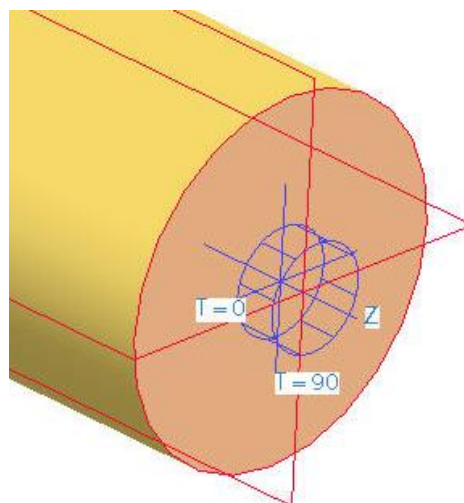

Figure 12 – Cylindrical Coordinate System
- Choose **Refine Model > Datum > Coordinate System**. In the Coordinate System dialog change the Type of the coordinate system to **Cylindrical** then pick the **RIGHT** and **FRONT** datums and then the end of the bar **IN THAT ORDER** – you should get the icon displayed as shown in Figure 12. **Close** the Coordinate System dialog box.